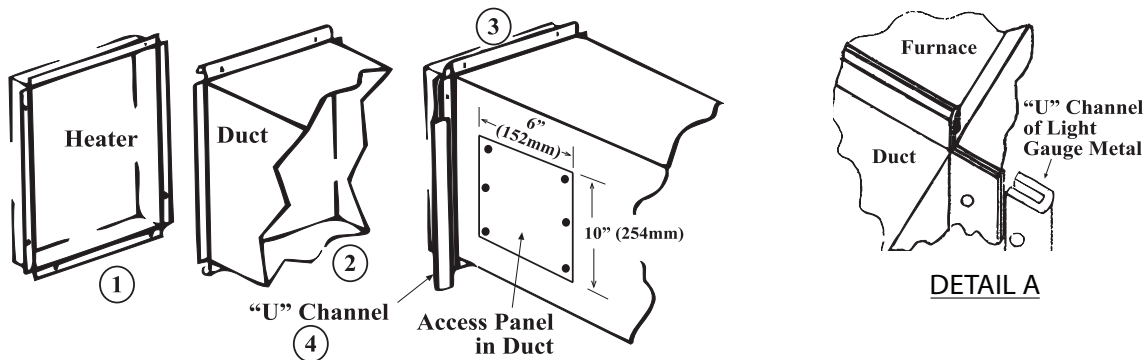

Figure 7. Connecting Ductwork to Furnace
- **Access panels:** Install removable access panels (see Figure 7) on both the upstream and downstream sides of the furnace. The access panels must be accessible when the furnace is in service and should be a minimum of 6 × 10 inches (152 × 254 mm) in size so smoke or reflected light may be observed inside the casing to indicate the presence of leaks in the heat exchanger. Ensure that the access panels are installed in such a manner so as to prevent leakage.
- **Supply air duct/furnace horizontal connection:** The seal between the furnace and the duct must be mechanical using U-type flanges on the top and bottom of the connecting duct to ensure tight joints and an airtight fit. Refer to Figure 7 and perform the following steps: